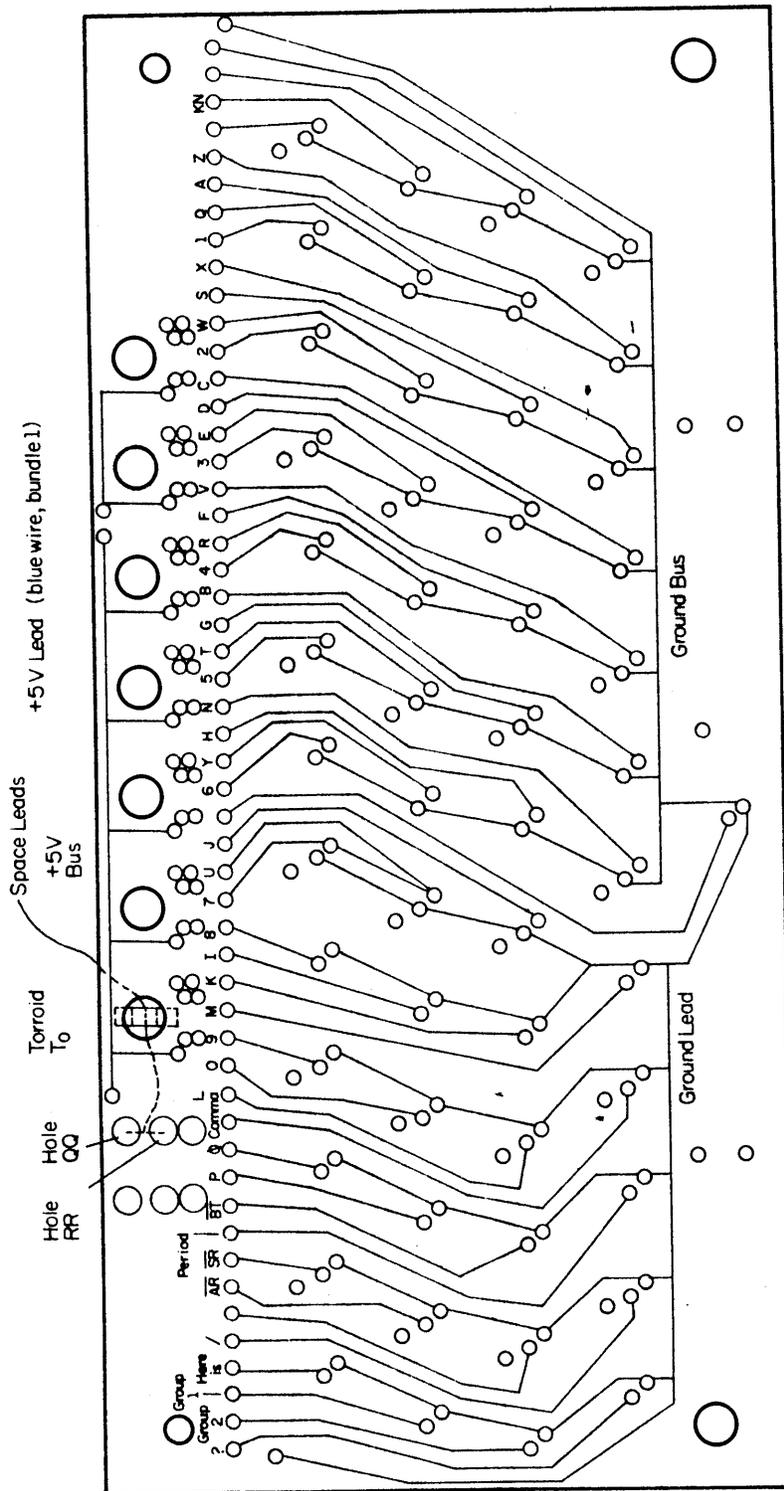

Fig. 1 MKB-1 Keypad Board (bottom view)
The wires listed in these tables will now be connected to the proper keyswitches. Figure 1 shows a bottom view of the MKB-1 keyswitch circuit board. Each keyswitch has two terminals. The grounded contacts of the switches are connected to a printed ground bus which runs along the front-panel edge of the circuit board. The "hot" side of the switches are connected by printed conductors to a row of pads near the toroid mounting holes.
the wire for that character to a keyswitch. Instead, route it to the top side of the keyswitch board, pass it through toroid T₀, and solder it to the bundle of leads connected to hole QQ or RR, as shown in Figure 1. It will be necessary to remove the four screws holding the keyswitch board in place and lift the board gently away from the cabinet to gain access to the toroid wiring.
Now, referring to Figure 1, install the three wires which connect the activating keyswitches to the KB-ID1 inputs:
1. Connect the blue wire of bundle 1 to the +5 volt bus which runs along the top edge of the board near the toroids, as shown in Figure 1. Lay the tinned end of the wire along the printed bus and solder it in place.